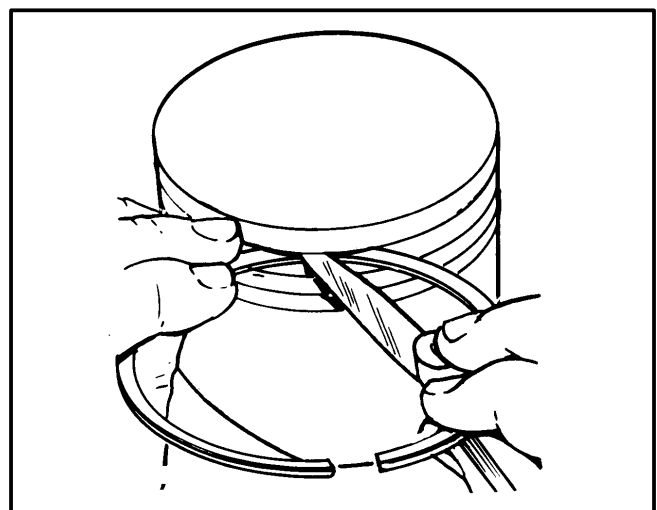

FIGURE 10-17. CHECKING RING SIDE CLEARANCE
1. Inspect the pistons for fractures at the ring lands, skirts, and pin bosses. Check for wear at the ring lands using a new ring and feeler gauge as shown in Figure 10-17. Replace the piston when the side clearance of the top compression ring reaches that specified in Section 3. *Dimensions and Clearances*.